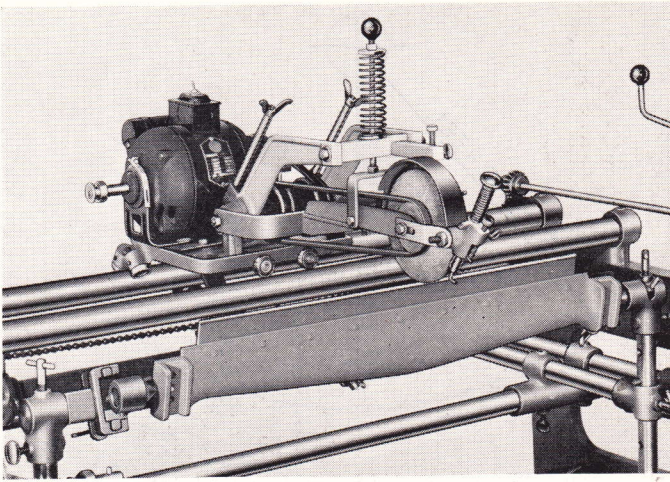

Fig. 10
58. You are now ready to grind the bed knife on the bed knife grinding attachment of the Peerless. If you followed the setting up instructions carefully you will find this attachment is ready for use by simply placing it on the end of the mower supports and, for this operation, the mower support end with the V notch milled in it should be placed down. We recommend having the mower support shaft extend upward only as far as the first hole as shown in Fig. 10. The holding centers for the bed knife are spaced on the bed knife grinding attachment bar at the proper position to accommodate the bed knife, and the adjustable center is tightened to hold it firmly. The bed knife holding or locking device is on the center of the attachment bar and is now pivoted until the two screws can engage the bed knife and hold it steady to prevent it from rocking on the centers. If the particular bed knife you are to grind does not have holes in the end of it to accommodate these centers, we recommend that you counter-drill a small $\frac{1}{4}$ " hole approximately $\frac{3}{8}$ " deep to provide a method of holding the bed knife assembly with the centers. If this is not possible we would suggest you use the dummy center castings provided to clamp over the end of the bed knives. These centers have the small counter-drilled hole in them to accommodate the centers of the bed knife grinding attachment. With the bed knife securely in place, the entire bed knife assembly can be rotated by loosening the two T-handled screws on either end of the bed knife attachment, so that the front edge of the bed knife is brought up to the proper position, giving an angle of 5 to 10 degrees as shown in Fig. 10. The grinding head of the Peerless is brought down into
and the bed knife so positioned that when the grinding wheel scratches it is contacting behind the cutting edge thus assuring the desired clearance. By turning the motor by hand and having the grinding wheel scratch, the contact can be noted and the exact angle, and the amount of metal to be removed behind the cutting edge determined. After the bed knife has been positioned to give the desired results, again the grinding wheel is set to scratch lightly at both ends of the bed knife by using the vertical adjustment cranks located at each side of the machine. When equal contact is being made, start the motor and begin using the hand crank feed and increasing the feed until you have ground down to a new edge the entire length of the bed knife. The bed knife shown in Figs. 10 and 11 is from a thirty inch Toro Fairway unit, and on this particular bed knife it was necessary to drill the small holes in the ends to accommodate the centers which hold the bed knife in position. When a new edge has been reached you are ready to remove the bed knife from the attachment and, in grinding gang mowers or more than one of the same make and model of mower, we suggest that all bed knives be ground before removing the bed knife grinding attachment from the Peerless. This will eliminate the setting up time on each individual bed knife.